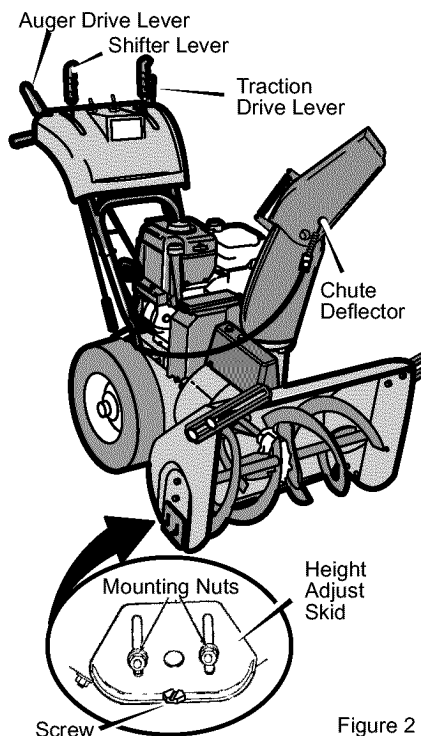

Figure 2
Figure 2 shows the snow thrower completely assembled.
4. For shipping purposes, the **height adjust skids** are attached to the pallet. Remove the **screw** that secures each **height adjust skid** to the pallet. See Figure 2.